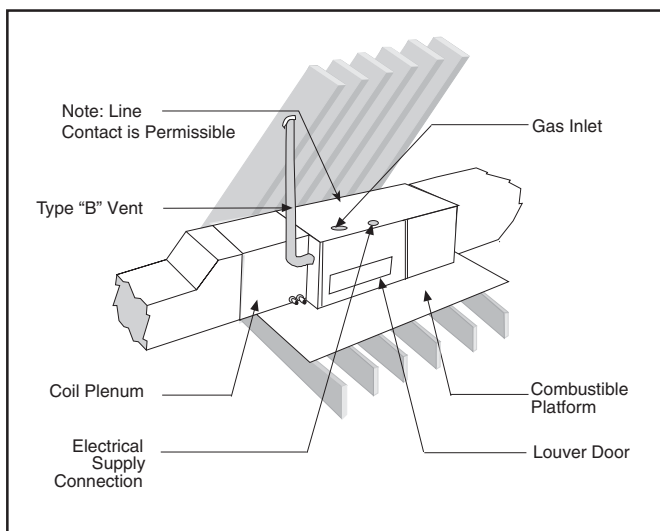

Figure 2. Horizontal installation on a Platform
1. Construct a hole in the floor per the dimensions in Figure 2.
This furnace can be installed horizontally in an attic, basement, crawl space or alcove. It can be suspended from a ceiling in a basement or utility room in either a right to left airflow or left to right airflow. (See Figure 2.)